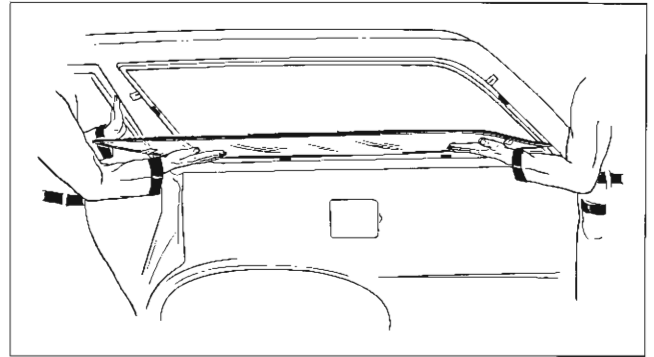
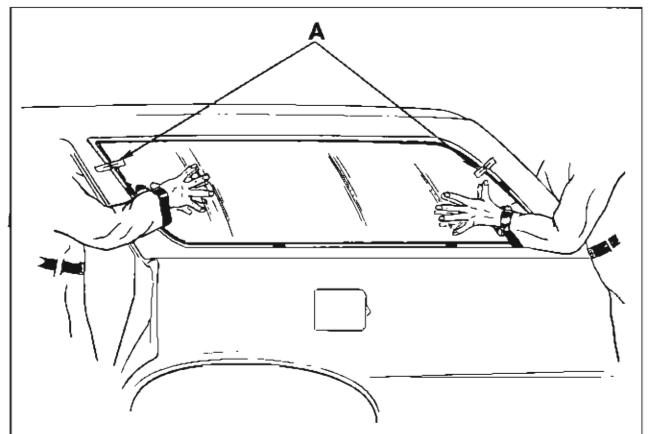

Fig. 13-14 Window Installation
Fig. 13-15 Window Installation
4. With aid of a helper, carry glass to body as shown in figure 13-14. Then, with helper supporting glass with both hands, reach one hand around body pillar and support glass while helper also reaches around pillar to assume position shown in Fig. 13-15. Position glass in opening by making contact along upper edge first, then swing in lower edge.
7. After final adjustments have been made and glass is in proper position, apply a piece of masking tape horizontally over front and rear edges of glass and body pillars (A, Fig. 13-15). Slit tape vertically at glass edge so that tape on glass can be aligned with tape on body and act as guide when glass is installed.
18. With the aid of a helper, carefully install glass as described previously in step 4 (Figs. 13-14 and 13-15). Make certain that glass sets properly on all spacers and does not have to be shifted after caulk material contacts pinchweld flange. Focus attention on tape guides that were applied to glass and body to properly align glass in opening.